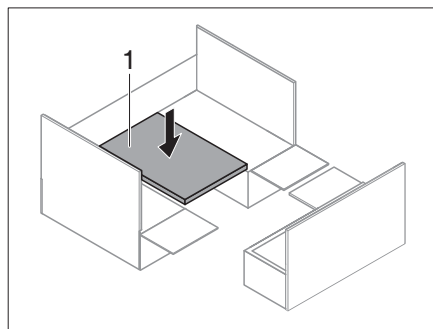

Fig. 195 Hooking table down
- Move the hooking table (Fig. 195,1) from the upper attachment rail into the lower attachment rail.